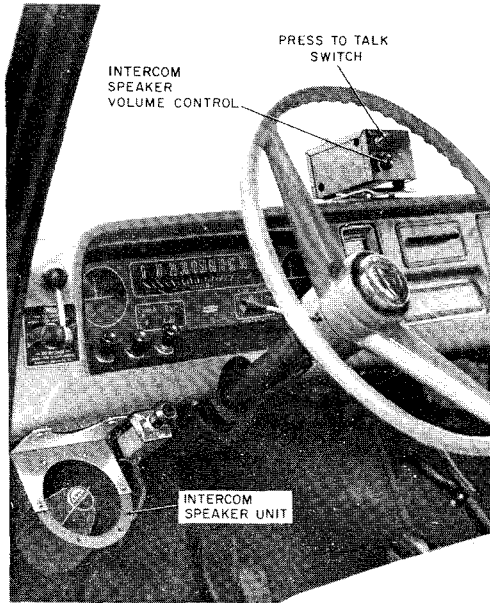

Fig. 5—Intercom Speaker Unit and Controls in Truck Cab
2.05 Intercom speaker units are mounted in the platform, in the truck cab (Fig. 5), and on the right rear of the truck body to allow the operator and the truck driver to converse. The speaker at the rear of the truck has an ON-OFF toggle switch and is turned on only when communication between the cab and the rear of the truck is necessary. The platform unit is designed for 2-way hands-free operation, and the cab unit has a push-to-talk switch.